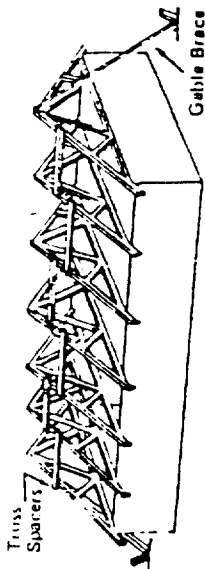

Fig. 3
2. **Truss Spacers:** Figure 3 shows short pieces of 1 x 4 or 2 x 4 used not only as a lateral bracing of the top chord back to the gable end, but also as a truss spacer to maintain the 2'-0" o.c. increment of spacing throughout the roof structure.
2. Next position the first common truss and fasten it to the top plate. Brace the first common truss as in figure 3.